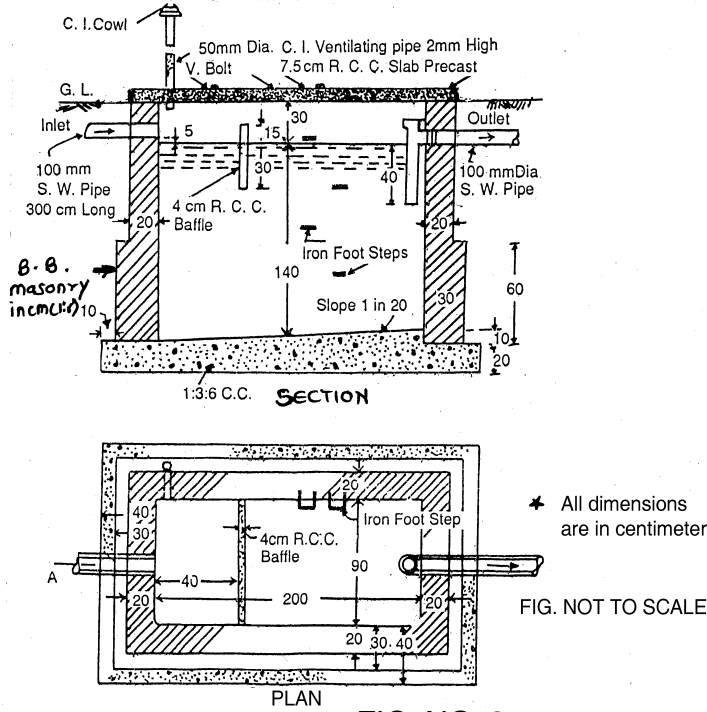

FIG. NO. 3
a) Work out the quantity of following items for septic tank Refer Figure No. 3.